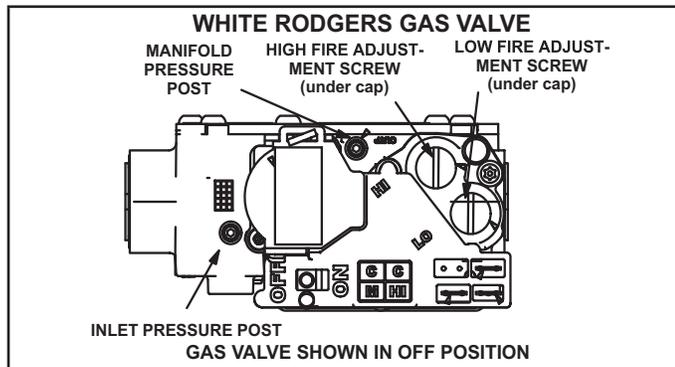

FIGURE 10
- 6 - Move the switch on the gas valve to OFF. Do not force the switch. See figures 10 and 11.
An inlet pressure post located on the gas valve provides access to the supply pressure. See figures 10 and 11. Back out the 3/32 hex screw one turn, connect a piece of 5/16 tubing and connect to a manometer to measure supply pressure. Check supply pressure with unit on high fire. On multiple unit installations, check each unit separately and with other units operating. See table 2 for supply line pressure. Following supply pressure test, shut off unit, remove manometer and tighten pressure post hex screw
All units - A manifold pressure post located on the gas valve provides access to the manifold pressure. See figures 10 and 11. Back out the 3/32 hex screw one turn, connect a piece of 5/16 tubing and connect to a manometer to measure manifold pressure.
- 5 - Figures 10 and 11 show location of low fire adjustment screw. Repeat on high fire and compare to value given in table 2. If necessary, make adjustment. Figures 10 and 11 show location of high fire adjustment screw.